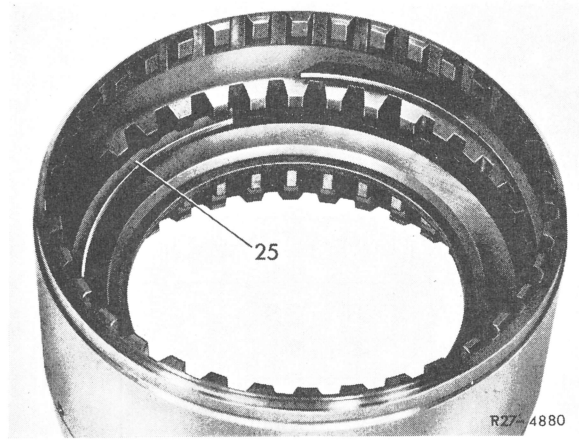

Fig. 3
4 If required, push undulated circlip (25) with a screw driver out of groove and remove (Fig. 3).
9 Insert undulated circlip (25) into brake drum B 2 (23) (Fig. 3). The circlip should be tight in groove; assist with screw driver, if required.